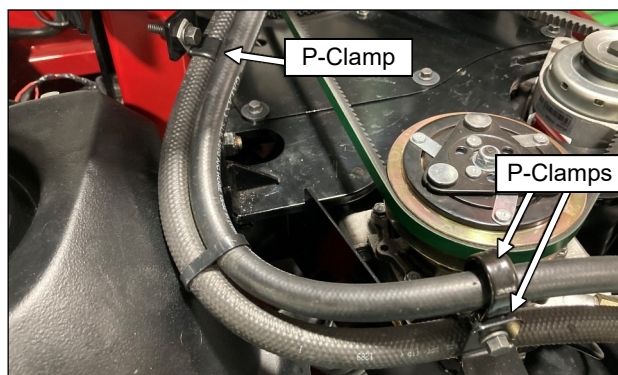

Fig. 9.2 (A/C hose P-clamps)
- 9.2 Per fig. 9.2, secure the upper hose to the lower tab on the left ROPS mount with a 3/4" P-clamp, 1/4" x 1" bolt and nut. Secure each hose to the upper tab of the compressor debris cover with a P-clamp, bolt, and nut. Arrange the clamps and hoses so that the hoses will clear the cover then tighten snug.